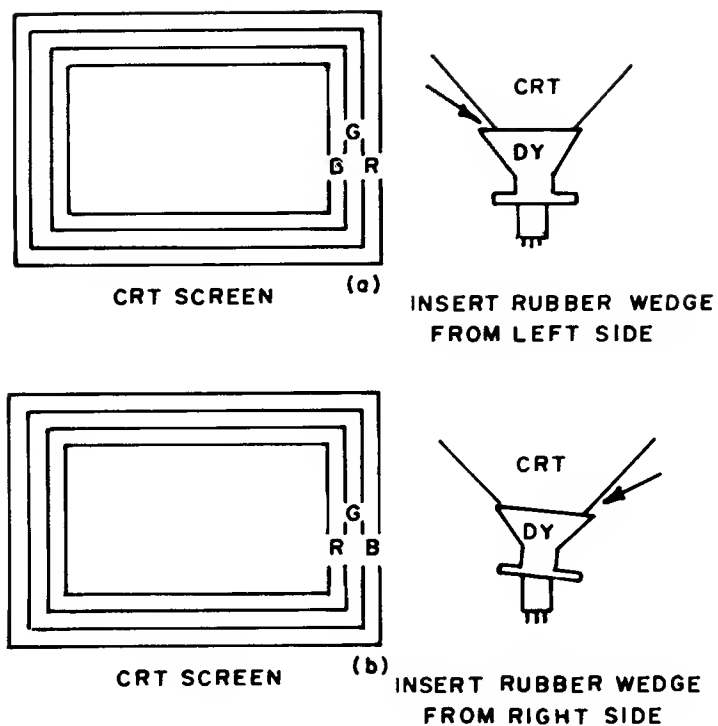

Figure 9
- 4.4 Tilt the angle of the yoke sideways to adjust the parallel convergence of both horizontal and vertical lines at the edges of the screen. See Figure 9 (a) and (b).